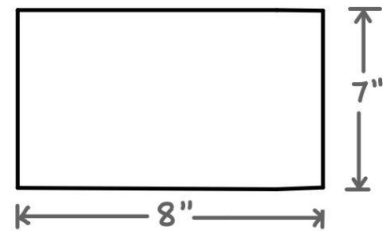

Figure 4: Cardboard Base Bottom Plate
3. Construct the base of the RoboRamen© by taking the side base walls and front base wall (**refer to Figures 1-3**) and super-gluing or hot gluing them to the bottom base plate (**refer to Figure 4**).